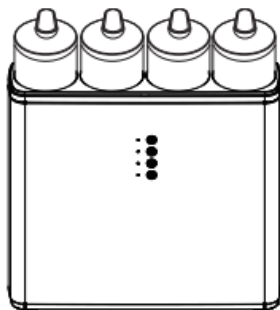

Fig. 5
4. Repeat the above steps to insert the remaining cartridges (Figure 5).